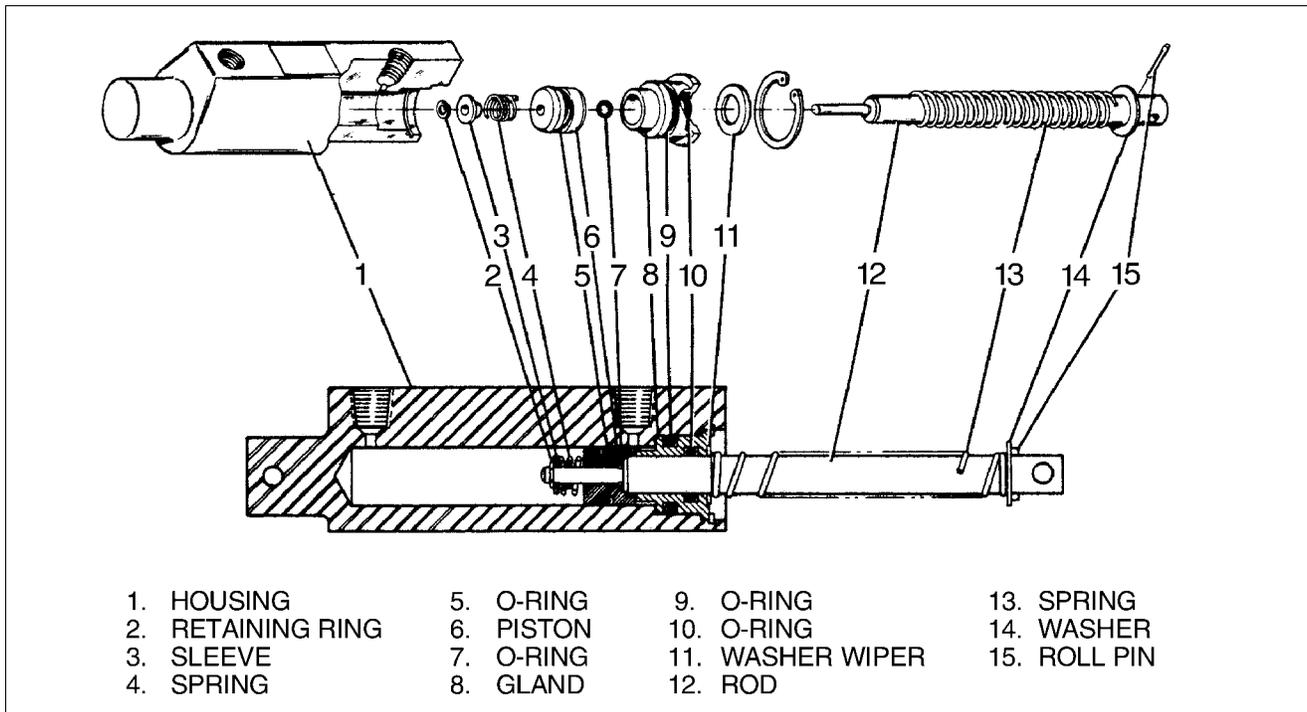

Figure 32-25. Toe Brake Cylinder (10-30)
2. Disassembly of Toe Brake Cylinder(s) (Refer to Figure 32-25)
4. Assembly of Toe Brake Cylinder(s). (Refer to Figures 32-25)